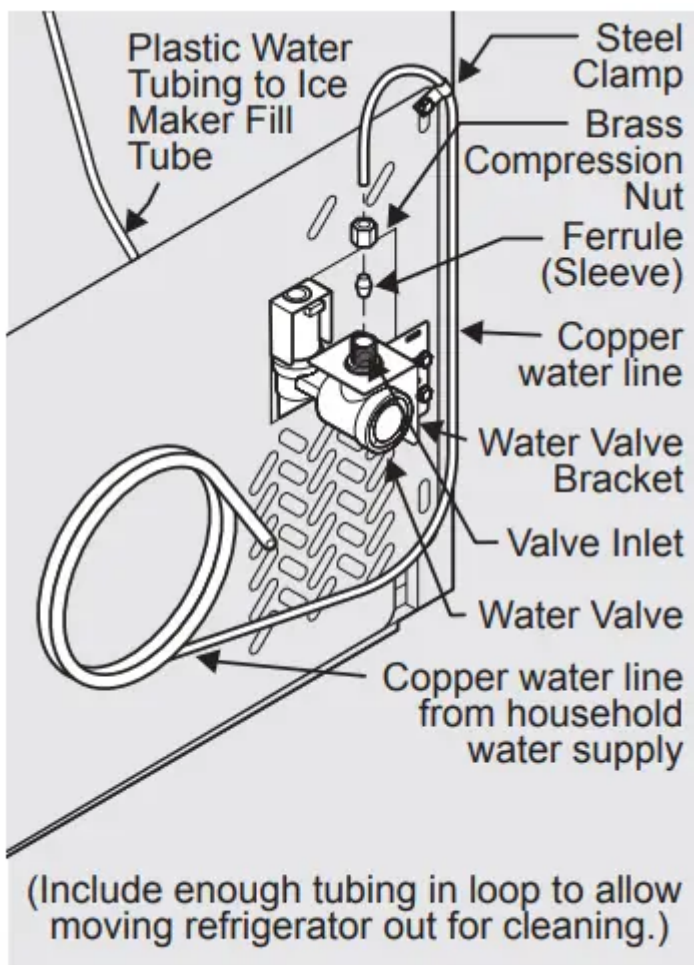
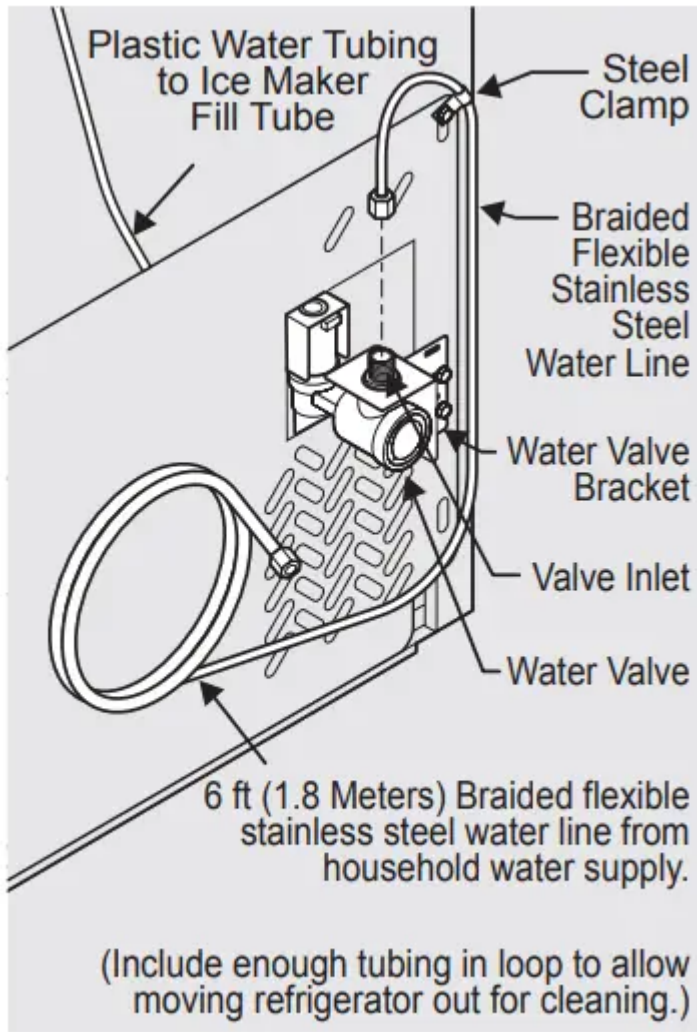

Figure 1
Figure 2
4. If you use copper tubing - Slide brass compression nut, then ferrule (sleeve) onto water supply line. Push water supply line into water valve inlet as far as it will go ($\frac{1}{4}$ inch/6.4 mm). Slide ferrule (sleeve) into valve inlet and finger tighten compression nut onto valve. Tighten another half turn with a wrench; DO NOT over tighten. See Figure 1. If you use braided flexible stainless steel tubing - The nut is already assembled on the tubing. Slide nut onto valve inlet and finger tighten nut onto valve. Tighten another half turn with a wrench; DO NOT overtighten. See Figure 2.